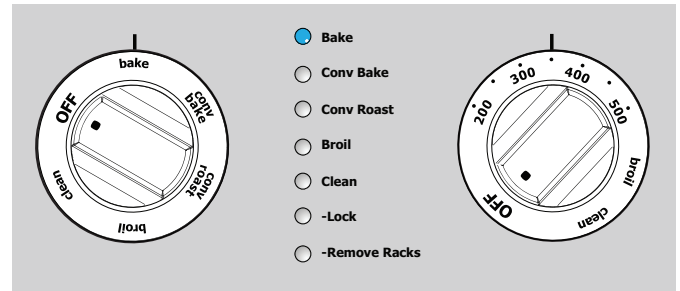

Figure 18: Selecting the bake function
2. Turn the function dial to **Bake**. The Bake indicator light will flash (Figure 18).